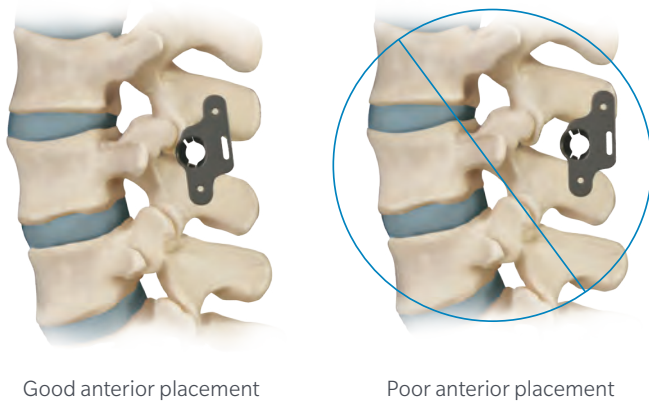

Figure 19
- Confirm correct placement with radiograph (**Figure 19**).